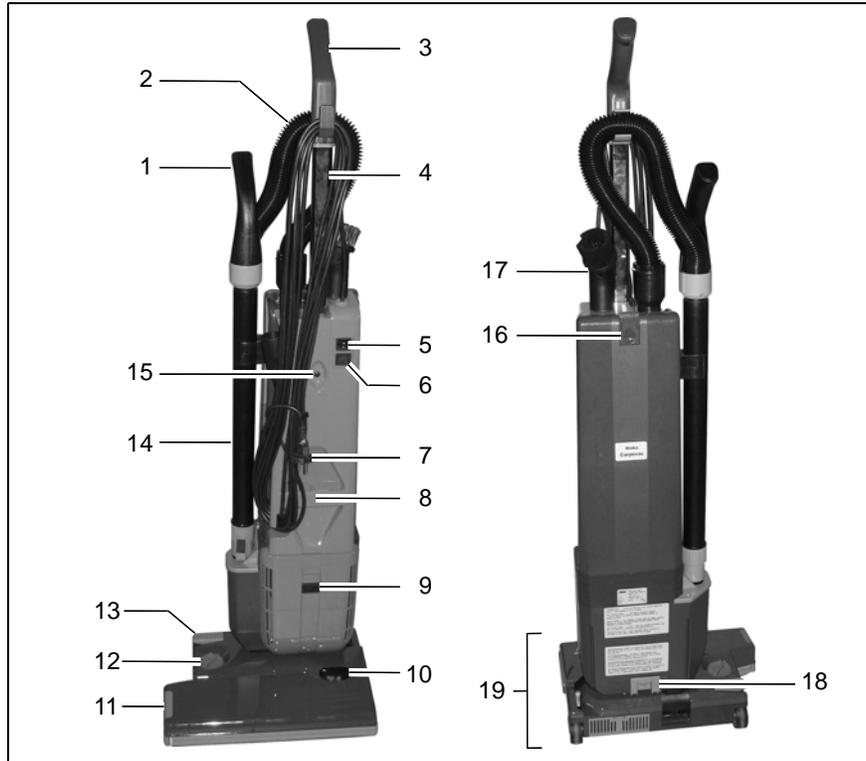

Fig. 6
1. Switch the Minuteman Phenom on using the On/Off switch (Fig. 6/5) and move the locking device (Fig. 4/1) to its working position.
### **Handle** (Fig. 6/3)
(Fig. 6/14 and 6/2)
### **On/Off switch** (Fig. 6/5)
### **Change filter indicator** (Fig. 6/6)
#### **for shaft** (Fig. 6/15)
#### **with cable** (Fig. 6/7)
### **Carrying handle** (Fig. 6/8)
### **Locking device** (Fig. 6/13)
(Fig. 6/12)
#### **for brush pressure** (Fig. 6/10)
### **Nozzle** (Fig. 6/1)
- Check the paper filter bag, remove and change when the filter change indicator (Fig. 6/6) lights up.